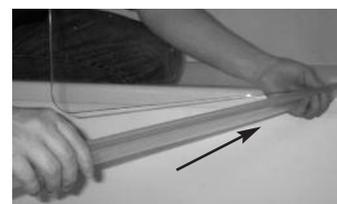
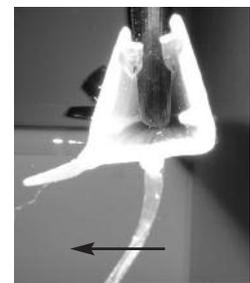

Figure a10
Figure a10i
10. Remove spacers and push the Curved Screen Bottom Seal (J) completely onto the Curved Bath Screen (C) (Figure a10). Ensure the deflector strip on the Bottom Seal faces inwards towards the Bath (Figure a10i). This will enable water to be deflected into your Bath whilst using the shower. Once the Bottom Seal is in place cut to length ensuring the seal does not exceed the length of the Curved Bath Screen.